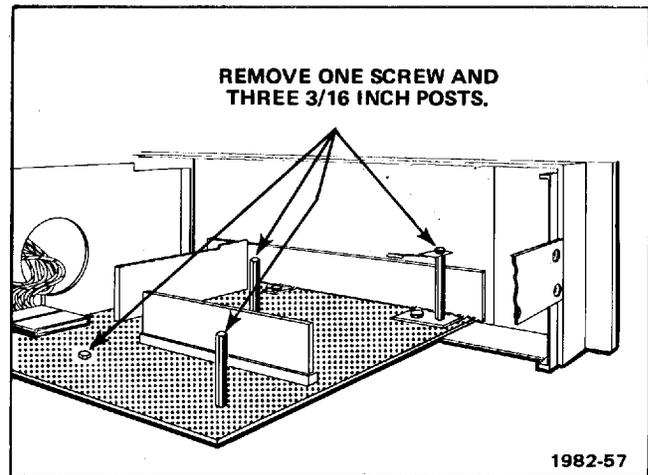

Fig. 5-11. T922R horizontal module replacement.
3. Remove one screw and three 3/16-inch posts (see Fig. 5-11).